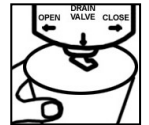

Fig 6.
7. Open Recycle Guard drain to remove any recovered sealant, oil, and dye (See Fig 6.)